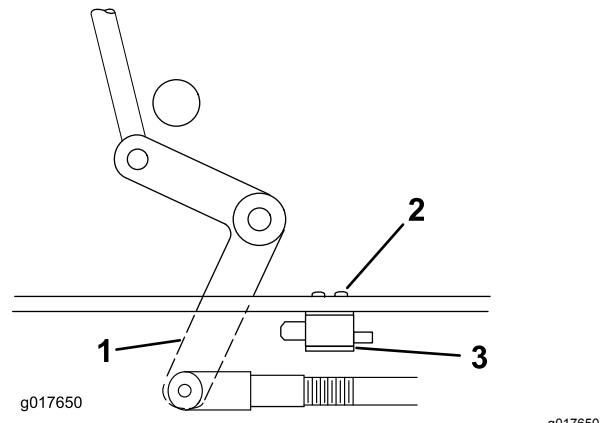

Figure 46
4. If needed, adjust the PTO-safety switch by loosening the bolts securing the switch bracket (Figure 46).
Important: Ensure that the bellcrank does not touch the switch body; otherwise, damage to the switch could occur (Figure 46).